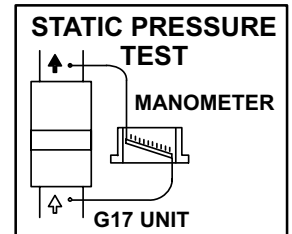

FIGURE 15
- 1- Measure tap locations as shown in figure 15.